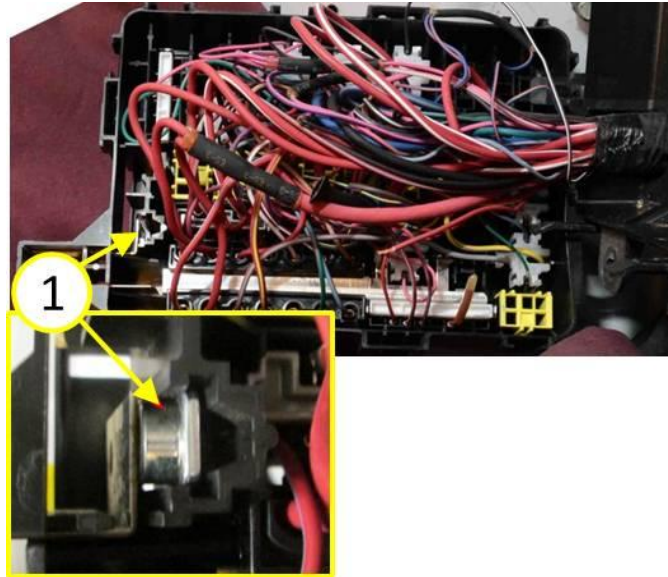

Fig. 6 Install Buss Nut
17. Install the buss nut provided in the repair kit into the slot above the buss with 5m hole, see (Fig. 6).